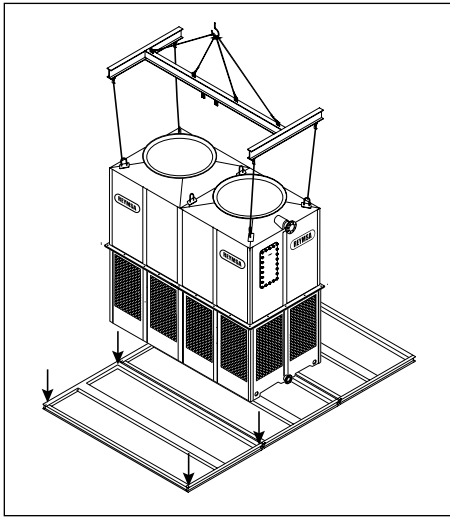
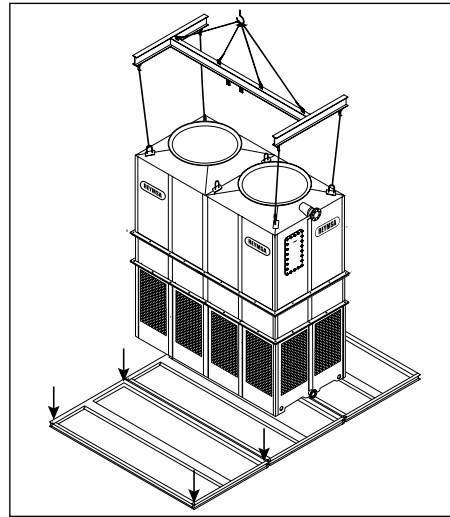

Figure A-61: L-Orientation - First T1 module lifting and installation (RTM-B-L or RTPM-B-L)
Figure A-62: L-Orientation - First T1 module lifting and installation (RTM-D-L or RTPM-D-L)
- A.** Once the basin and body sections have been assembled, lift the Tower using a crane and a spreader bar and place it on top of the isolation pad and the steel base structure. Secure it with the galvanized steel nut and bolts sets (supplied by others) as shown on Figure A-61 and Figure A-62.